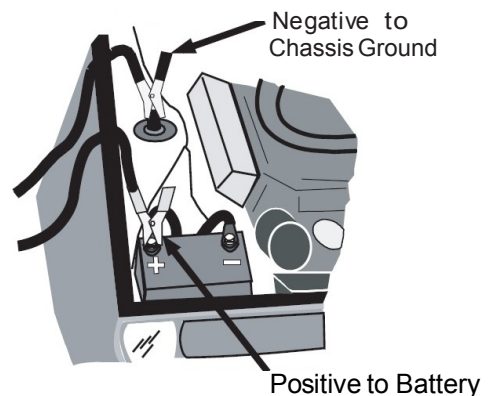

Figure B.3. Negative Ground
- a. **Negative ground vehicles** (The most common type, see Figure B.3).